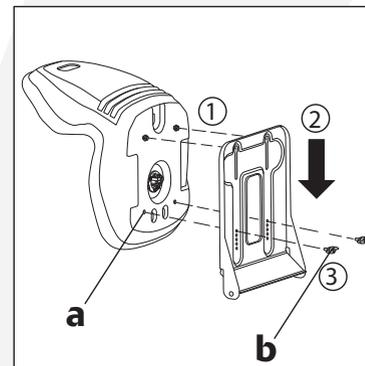

Fig. 2A
2. Choose one of five holes on the seat pan and thread the wing nuts into the holes (a). Secure with supplied wing nuts (b). You can move the seat to your desired position by selecting between the five different holes. (Fig.2A)